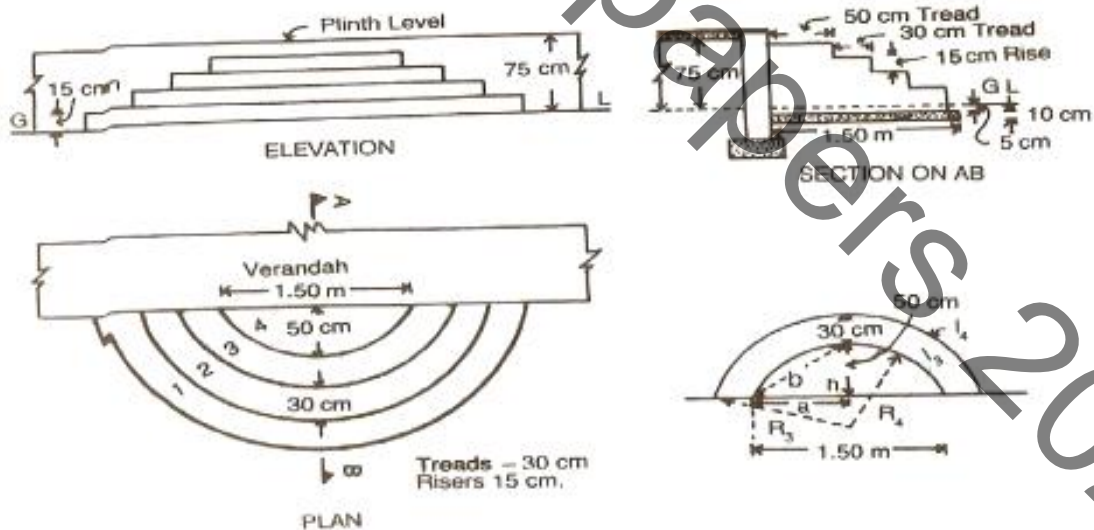

Figure 2
3. Work out the quantities for the following items for figure shown below figure 2.